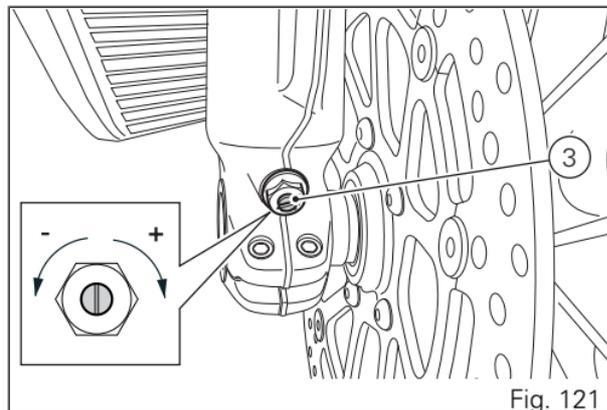

Fig. 121
- 3) for compression damping (Fig. 121).